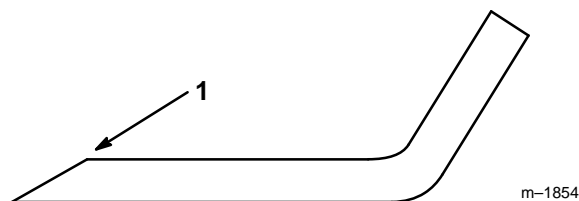

Figure 18
1. Use a file to sharpen the cutting edge at both ends of the blade (Fig. 18). Maintain the original angle. The blade retains its balance if the same amount of material is removed from both cutting edges.